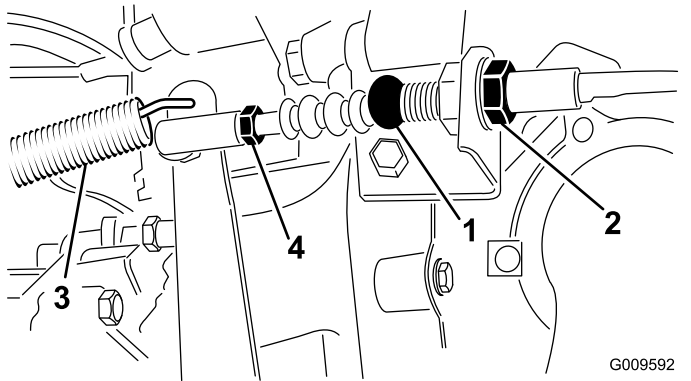

Figure 69
1. Loosen the jam nuts securing the clutch cable to the bracket on the bell housing (Figure 69).